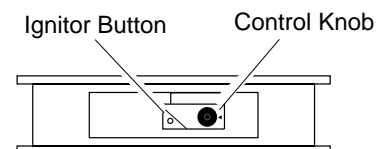

Figure 22 - Control Knob and Ignitor Button Location
4. Wait five (5) minutes to clear out any gas. Then smell for gas, including near the floor. If you smell gas, **STOP!** Follow "B" in the safety information, column 2. If you don't smell gas, go to the next step.
5. Turn control knob counterclockwise  to the PILOT position. Press in control knob for five (5) seconds (see Figure 22).